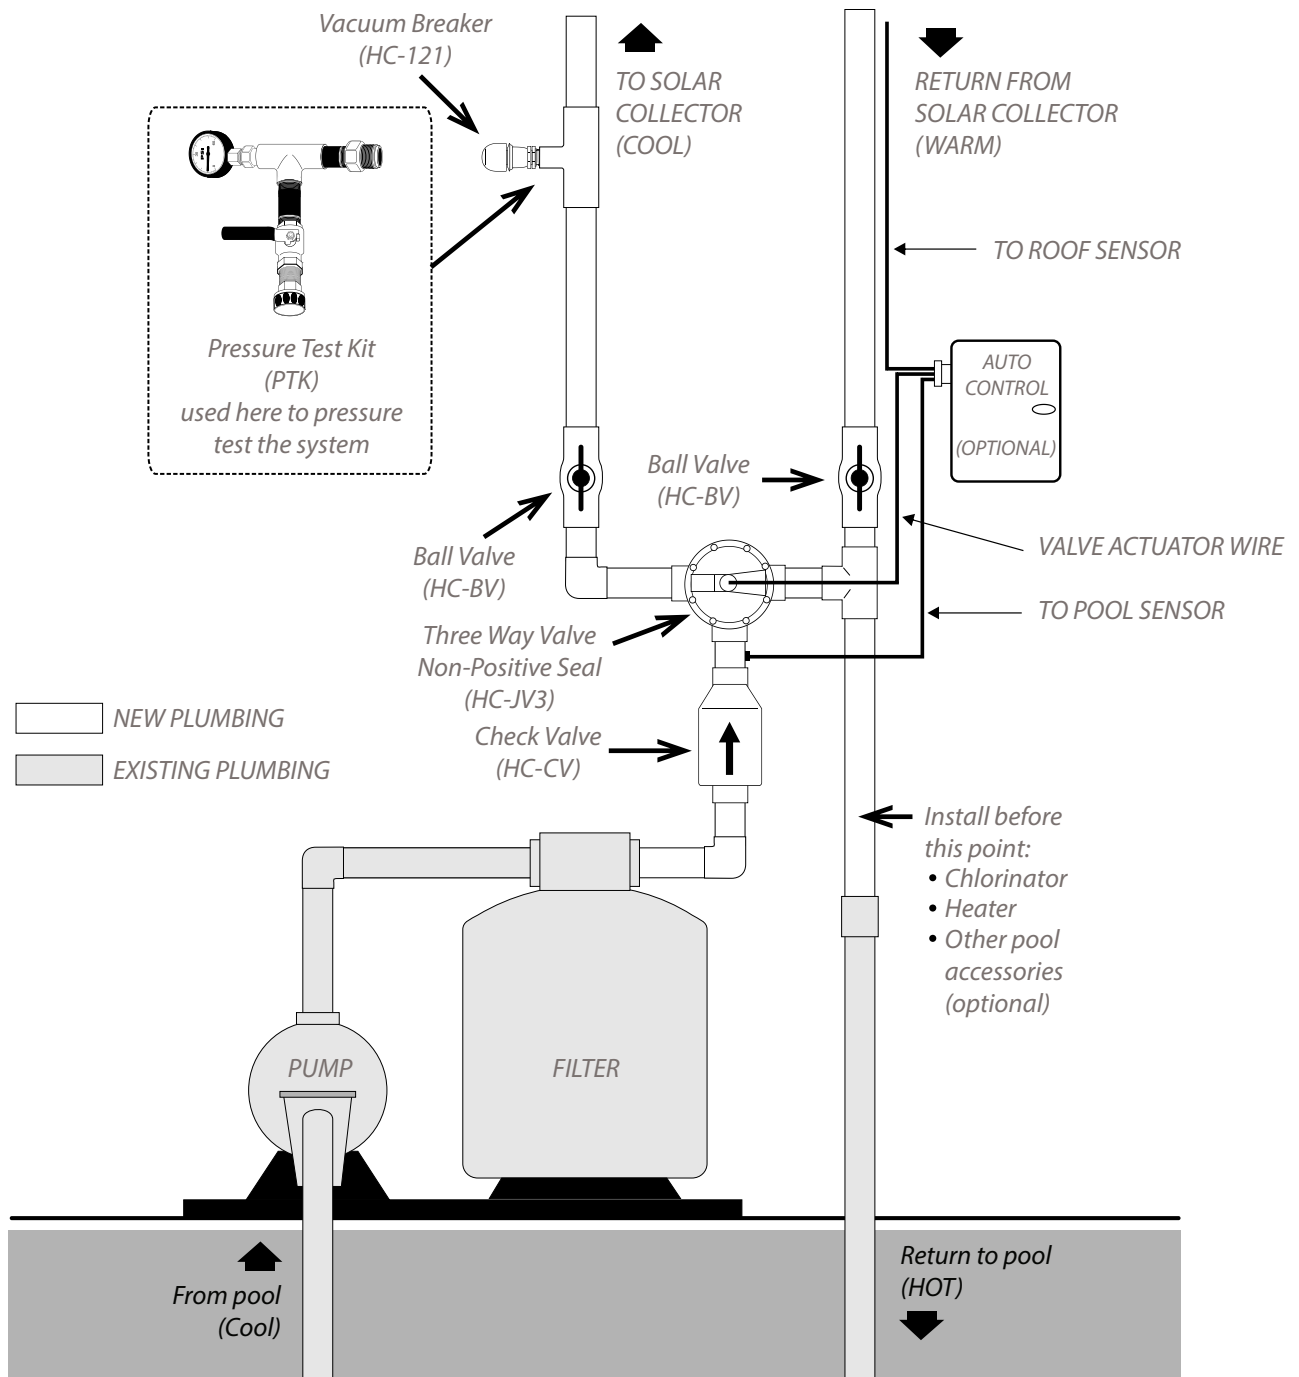

Fig. 13.1
2. Determine where the feed and return pipe will go over the edge of the roof. If possible, this should be perpendicular to the exact points where they will fasten into the existing system or into pipes coming from another location (see Fig. 13.1, page. 22).
8. Secure long pipe runs with C-clamps or G-clamps one size larger than the pipe diameter using (116) 3/8” x 4” stainless steel lag bolts and polyurethane caulk. Secure vertical pipe runs on the side of buildings with pipe-clamps the same size as the pipe diameter using screws and anchors as needed.
Fig. 13.1 on page 22 shows how a typical Heliocol solar pool heating system is plumbed into existing pool plumbing. This drawing may not be just like every system you encounter; the feed and return plumbing on a solar system may be reversed, or it may be a different type of filter, or it may have additional equipment such as a chlorinator, pool cleaner, gas heater, etc. It may also have a long run of plumbing from the pool equipment to the solar collectors.
Whether the system is like this or not, Fig. 13.1 will help you understand the flow of water from the pool, through the pump, filter, solar system, and back to the pool. Study the diagram and become familiar with the valves needed to connect the solar collectors to existing plumbing.
- 1.** Study the plumbing after the filter and decide where you are going to install the check valve and the PVC tee fitting (see Fig. 13.1). If you have auxiliary equipment, you may need to re-plumb a portion of your existing plumbing so this equipment is located after the solar system as indicated in Fig. 13.1.
- 2.** Cut the pipe after the filter where you have decided to locate the check valve and where your solar return pipe will attach to your existing pool return line. If your pool plumbing is 1-½", and you are running 2" plumbing to your solar system, you should be using 2" valves and piping for all of your new plumbing. Therefore you will need (2) 2"x1-½" reducer bushings to adapt your new 2" fittings to the existing 1-½" pipe.
- 6.** Install the (121) vacuum breaker about 4' up the feed line and above the top of the filter using a PVC tee and reducer bushing. Face the tee to the outside as shown in Fig. 13.1. Wrap the threads of the vacuum breaker with Teflon tape and screw it into the 3/4" threaded reducer bushing.